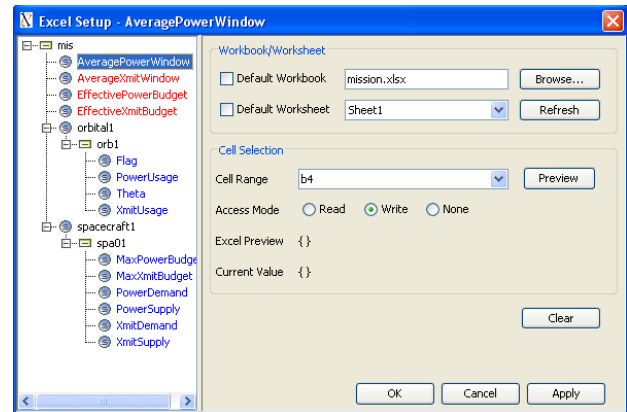

Figure 6.15 ParaMagic- Excel Set-up for slot
- i. For slots where we will write the result from the SysML model to the mission.xlsx spreadsheet, set the Access Mode to Write, as in Figure 6.15.